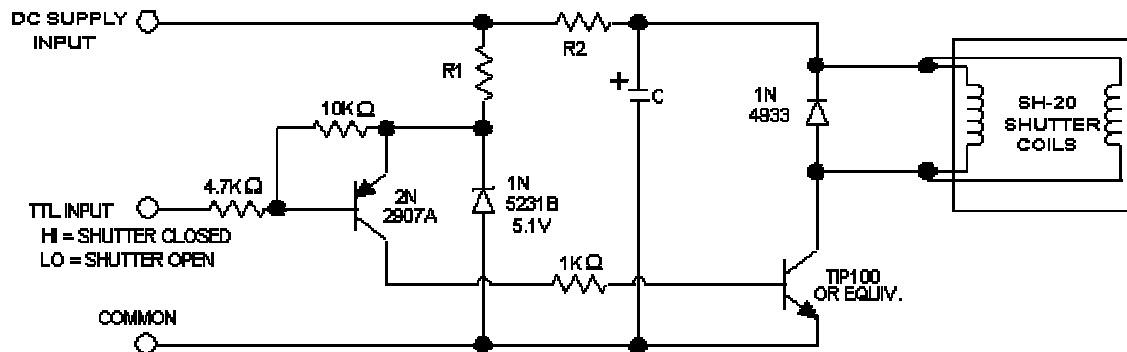

FIG. 3
3. TO CONTROL THE SHUTTER WITH A TTL INPUT SIGNAL, AND NOT BY THE ON-OFF SWITCH, THE FOLLOWING DRIVE CIRCUIT IS USED (TO "OPEN" OR "CLOSE" THE SHUTTER). CONNECT THE POWER SUPPLY TO "DC SUPPLY INPUT AND "COMMON". CONNECT THE TTL SIGNAL TO "INPUT" AND "COMMON". (SEE FIG. 3 AND TABLE 3)